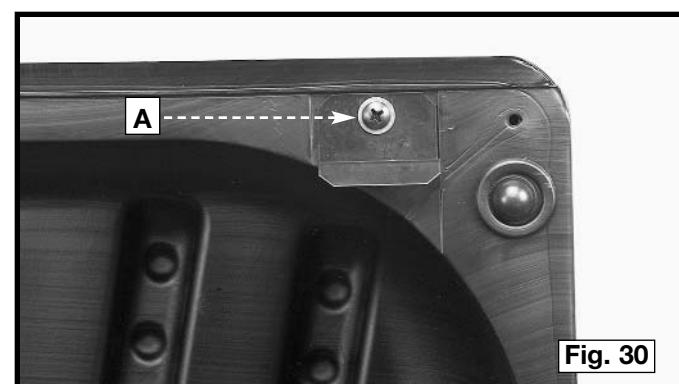

Fig. 30
13. Hold the clear blade guard (X) Fig. and lower the saw blade. Attach the table insert (E) Fig. 30 into the opening on the saw table.
1. Attach the two motor cover clips to the motor cover. Align the hole in the motor cover clip with the hole in the motor cover. Place a 13/64 flat washer on a 10-32 x 1/2" screw (A) Fig. 30. Insert the screw through the hole in the motor cover clip and thread the screw (A) into the tapped hole in the motor cover.